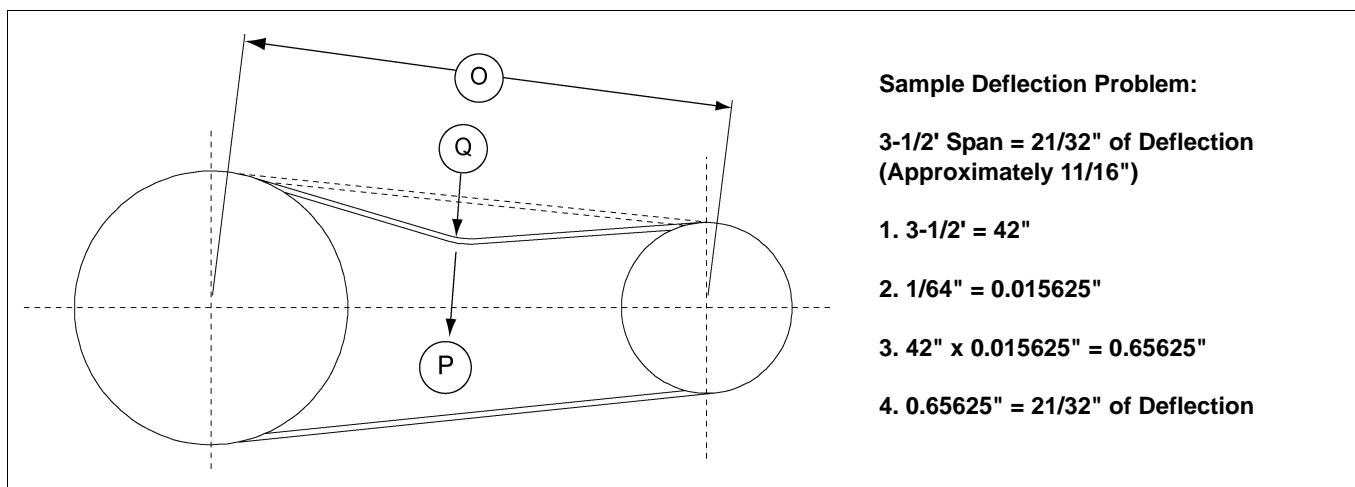

Figure 5K
14. Adjustment of V-belt tension is achieved by tightening the hex nuts located on the four (4) jack screws of the motor base. Adjust motor base equally at all four (4) jack screws to maintain shaft alignment. Belts are designed to fit loose upon installation. When the V-belt tension is correct, tighten the top nut on the jack screws to lock the motor base in position. Proper tension is $1/64$ " of deflection per one inch (1") of sheave centers on one side of belt, centered between sheaves. (See Figure 5K.)